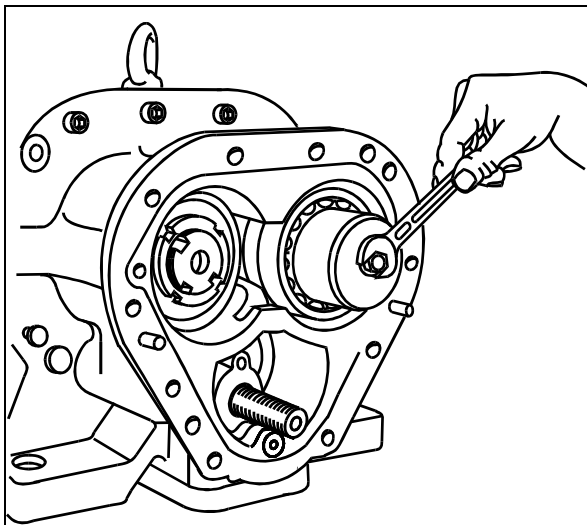

Figure 14: Assembly of the axial bearings (13) using mounting device T13
- b) Mount the axial bearings using tool T3 according to figure 14